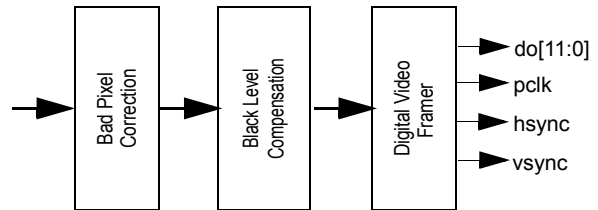

Figure 9. Digital Pixel Processing.
The pixel data is then fed into an analog video amplifier, where a user programmed gain is applied, then to the color amplifiers (red, green, blue), where each color gain can be individually adjusted (see Figure 9).
After gain and color gain adjustment the analog value of each pixel is converted to 12 bit digital data as shown in Figure 9.
- compensate black level, before being framed and presented on the digital output port. (see Figure 9).